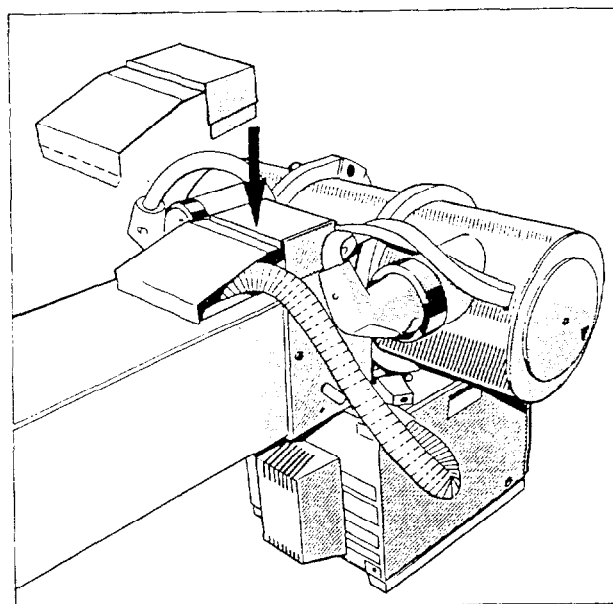

Fig. 21
- Fit the cover bracket to the upper side of the tube assembly and allow it to lock in place (Fig.21), and run the cables according to Fig.21.